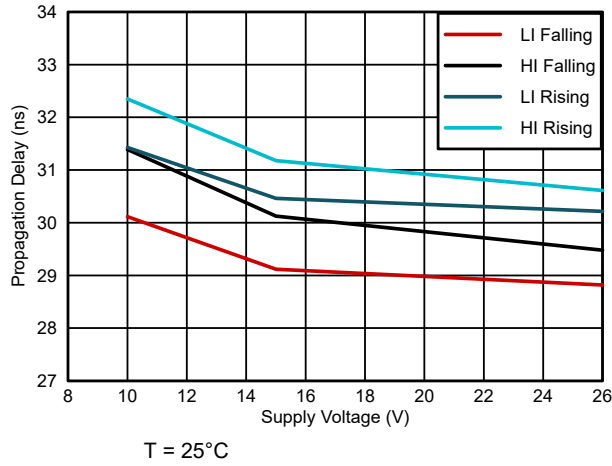
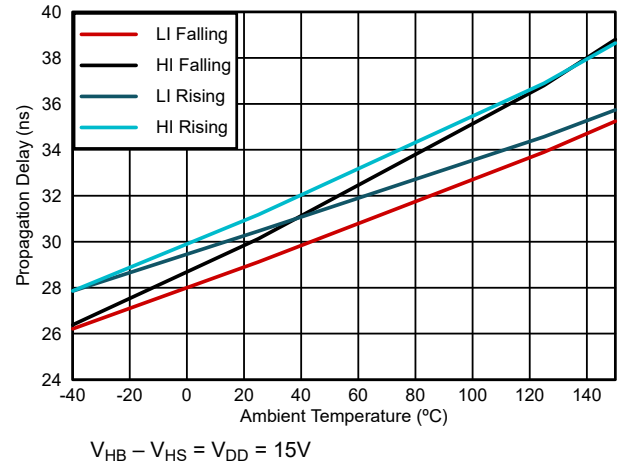
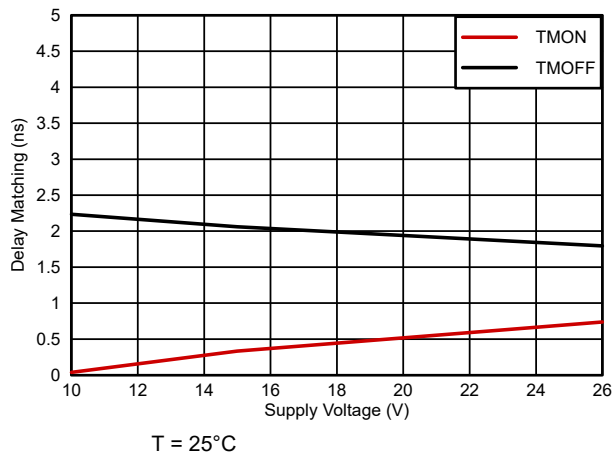
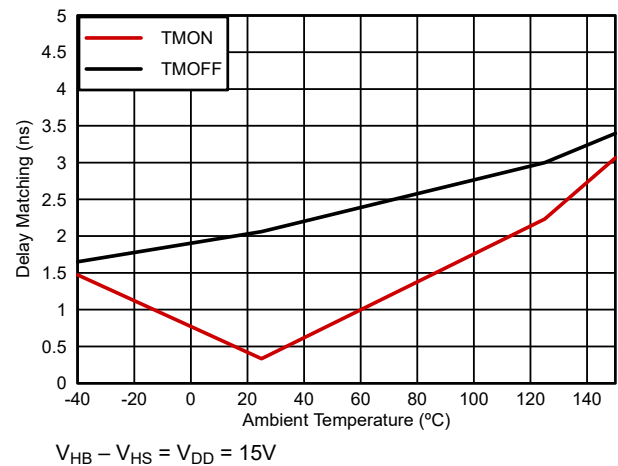

Figure 5-2. Propagation Delay vs Supply Voltage
Figure 5-3. Propagation Delay vs Temperature
Figure 5-4. Delay Matching vs Supply Voltage
Figure 5-5. Delay Matching vs Temperature
The level shift circuit (refer to the functional block diagram in Section 6.2) is the interface from the low-voltage input stage to the high-side driver stage which is referenced to the switch node (HS). The level shift allows control of the HO output referenced to the HS pin and provides excellent delay matching with the low-side driver. The delay matching of the UCC2773x-Q1 is summarized in Figure 5-5 and Figure 5-4.
The UCC2773x-Q1 features a fast, 32ns (typical) propagation delay (refer to Figure 5-2 and Figure 5-3) between input and output. The UCC2773x-Q1 also offers well-matched delay between the HO and LO channels (6ns max) enabling more precise dead-time control over operating conditions (refer to Figure 5-4 and Figure 5-5).